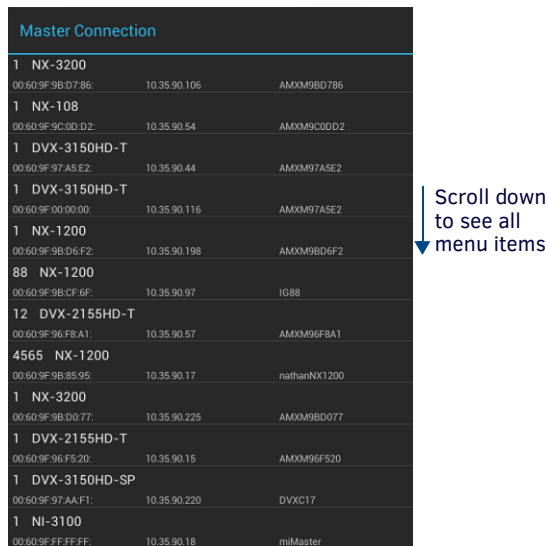

FIG. 64 Master Connection window
1. In the *NetLinX* page, press **Scan For Masters** to begin listening for NetLinX masters and open the *Master Connection* window (FIG. 64):